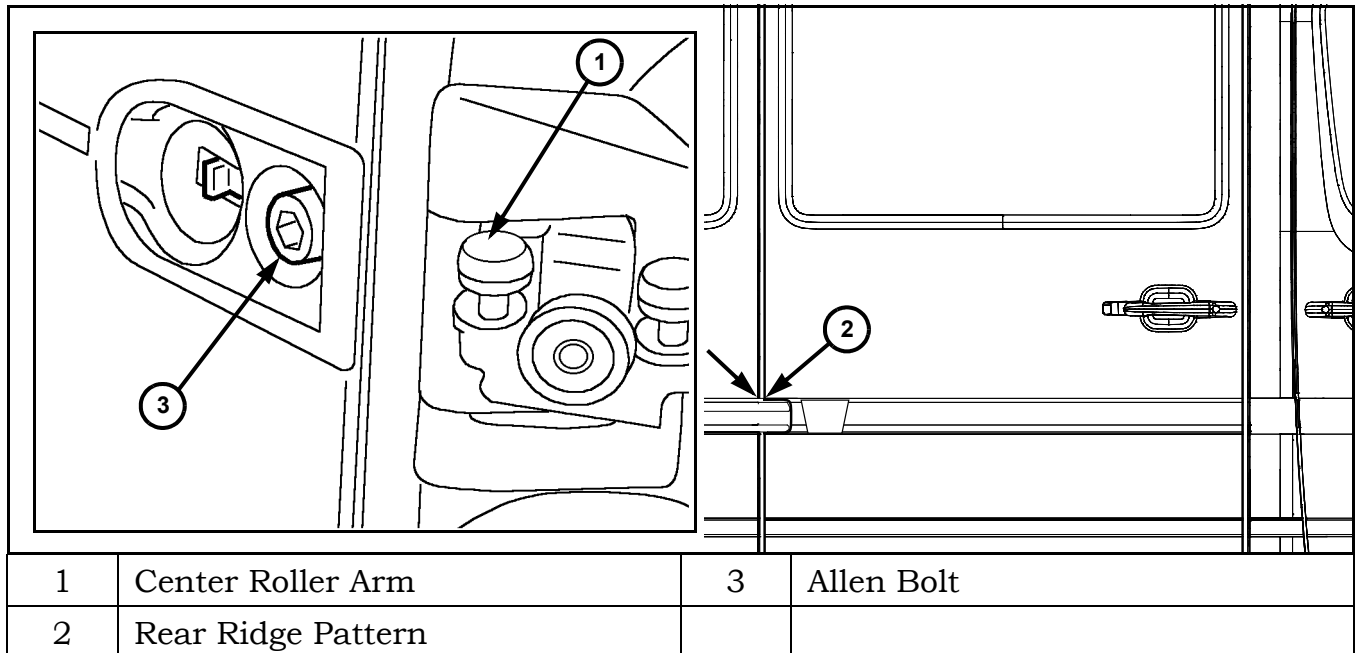

Figure 6 Rear Ridge Pattern Adjustment
- Loosen center roller arm bolt and adjust rear ridge pattern by lifting or lowering sliding door (Figure 6). Tighten center roller arm bolt.